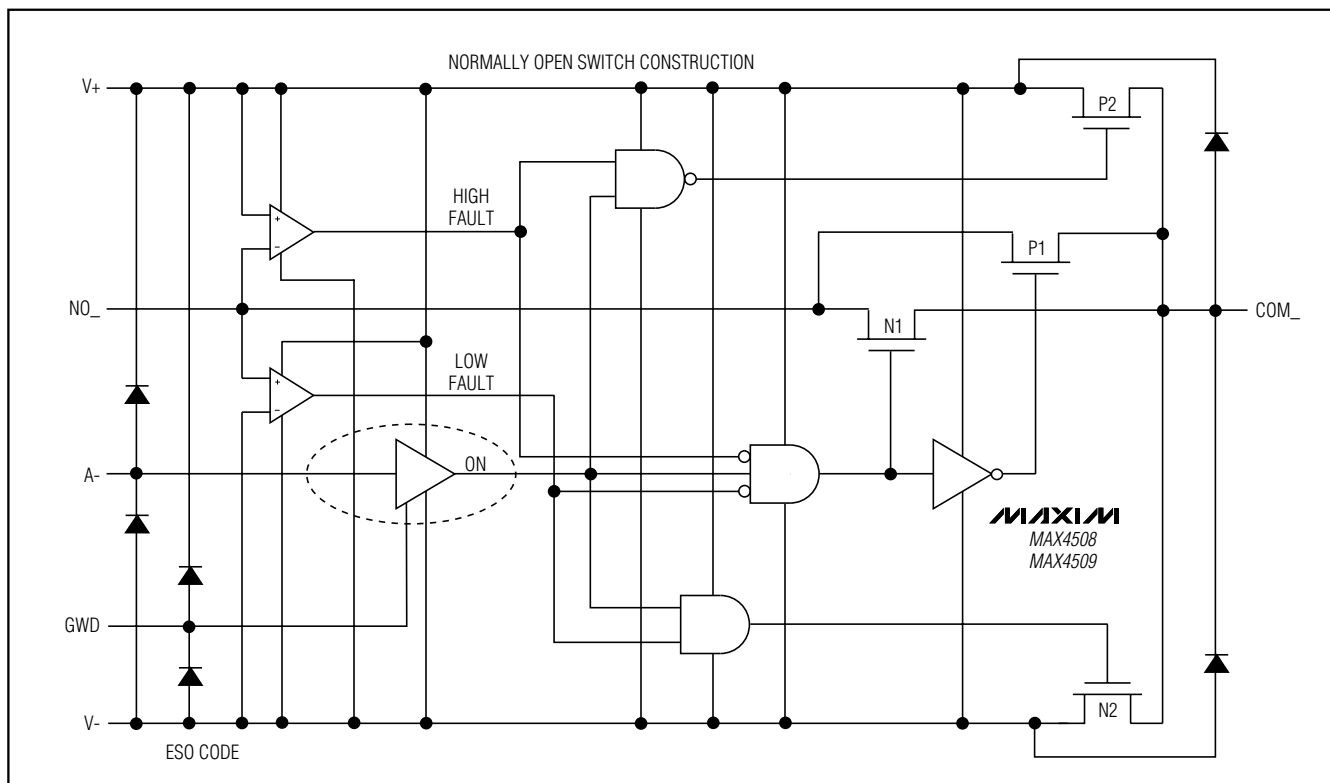

Figure 1. Functional Diagram
Figure 1 shows the internal construction, with the analog signal paths shown in bold. A single normally open (NO) switch is shown. The analog switch is formed by the parallel combination of N-channel FET N1 and P-channel FET P1, which are driven on and off simultaneously, according to the input fault condition and the logic level state.
Two comparators continuously compare the voltage on the NO- pin with V+ and V- supply voltages. When the signal on NO- is between V+ and V-, the multiplexer behaves normally, with FETs N1 and P1 turning on and off in response to A- signals (Figure 1). The parallel
When the signal on NO- exceeds V+ by about 150mV, the positive fault comparator output goes high, turning off FETs N1 and P1 (Figure 1). This makes the NO- pin high impedance, regardless of the switch state. If the switch state is "off," all FETs turn off, and both NO- and COM- are high impedance. If the switch state is "on," FET P2 turns on, clamping COM- to V+.
When the signal on NO- goes about 150mV below V-, the negative fault comparator output goes high, turning off FETs N1 and P1 (Figure 1). This makes the NO- pin high impedance, regardless of the switch state. If the switch state is "off," all FETs turn off, and both NO- and COM- are high impedance. If the switch state is "on," FET N2 turns on, clamping COM- to V-.
FETs N2 and P2 can source about ±10mA from V+ or V- to the COM- pin in the fault condition (Figure 1). Ensure that if the COM- pin is connected to a low-impedance load, the absolute maximum current rating of 30mA is never exceeded, either in normal or fault conditions.